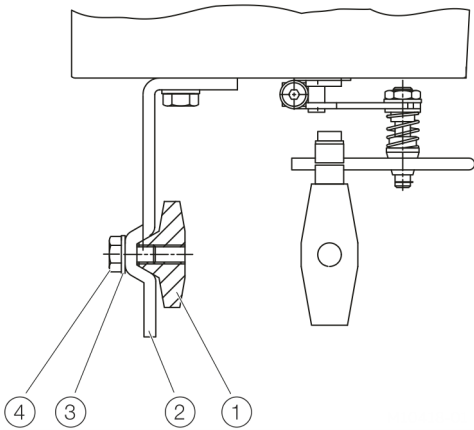
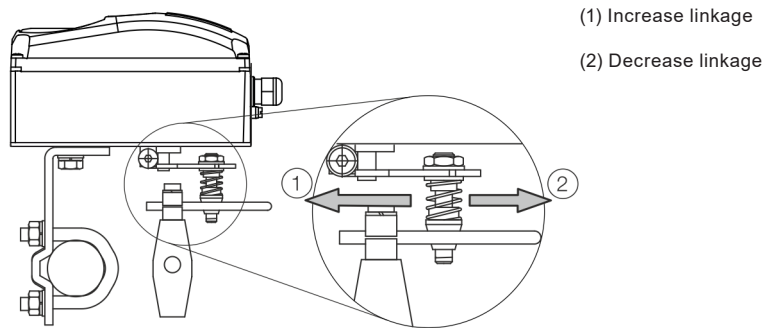

Fig. 7
Fig. 9
1. Attach the lever (6) to the feedback shaft (5) of the positioner (can only be mounted in one position due to the cut shape of the feedback shaft).
2. Using the arrow marks (4), check whether the lever moves within the operating range (between the arrows).
3. Hand-tighten the screw (7) on the lever.
Tighten the screws as evenly as possible to ensure subsequent linearity. Align the mount bracket in the oblong hole to ensure that the operating range is symmetrical Set the valve mid stroke and align the lever horizontal (item 4 Fig. 7) then tighten mounting bolt (item 4 Fig. 10) (lever moves between the arrow marks Item 4 Fig. 9).